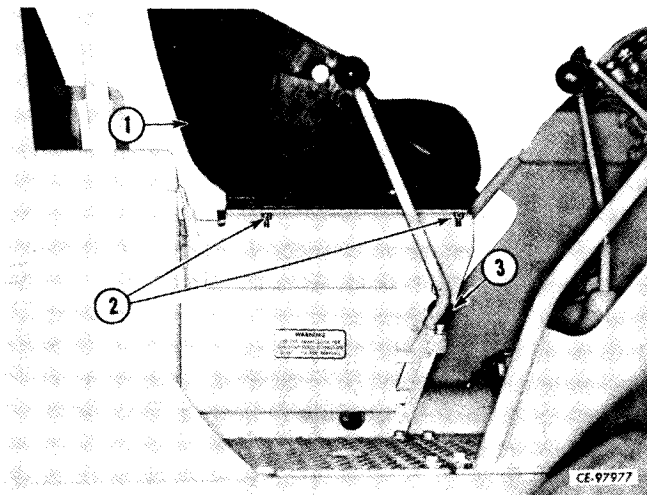

Figure 13-15
To gain access to brake lock valve (3), operator's seat (1, Fig. 13-15) must be removed. Remove nuts and lock washers (2) on each side and remove seat.
Position operator's seat (1, Fig. 13-15) on seat bracket, install and tighten lock washers and nuts (2).